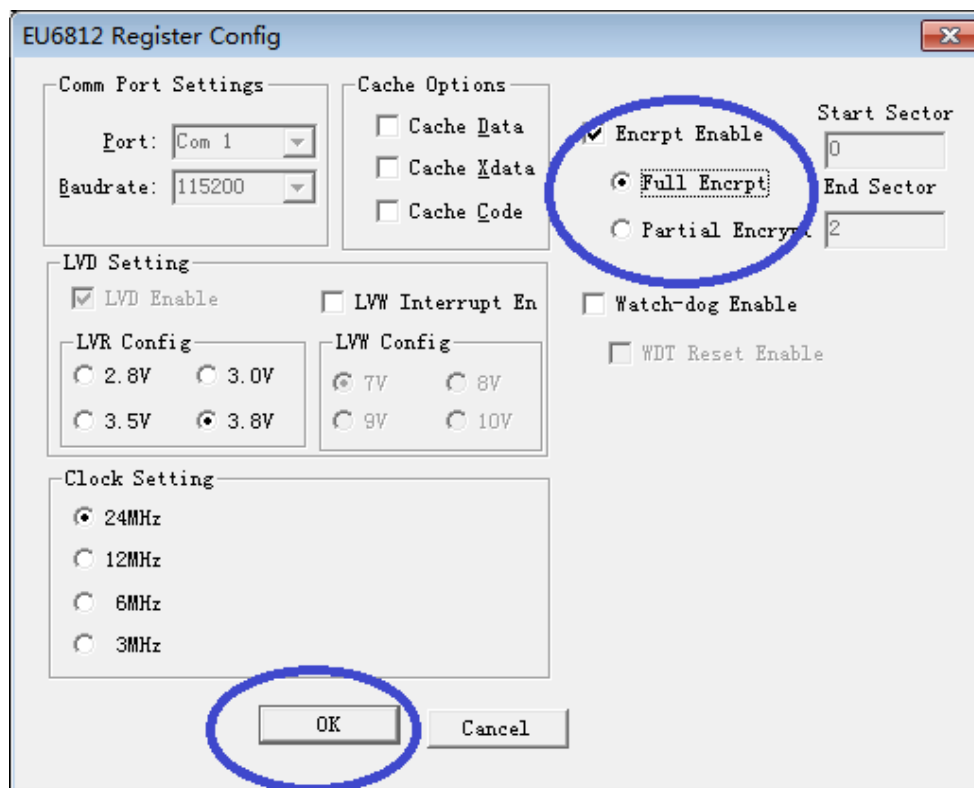
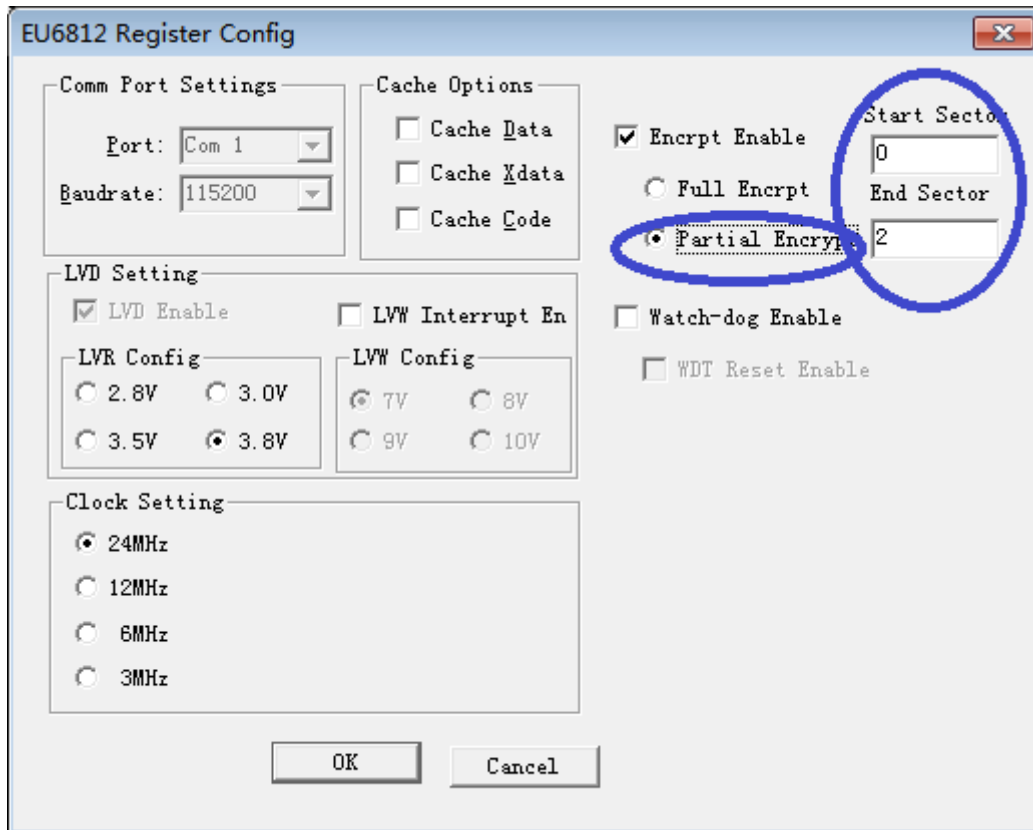

Figure 34-2 Full Code Protection Mode
Figure 34-3 Partial Code Protection Mode
2. Select the options as shown in Figure 34-2, and click OK. Then compile the project and download it. Get the BIN file and program it to Flash.
The chip support full code protection mode and partial code protection mode. After Full Encrypt is selected as shown in Figure 34-2, all codes in Flash are protected. After Partial Encrypt is selected as shown in Figure 34-3, the codes from sector 0 to END SECTOR are protected. The last sector is always protected in any case.